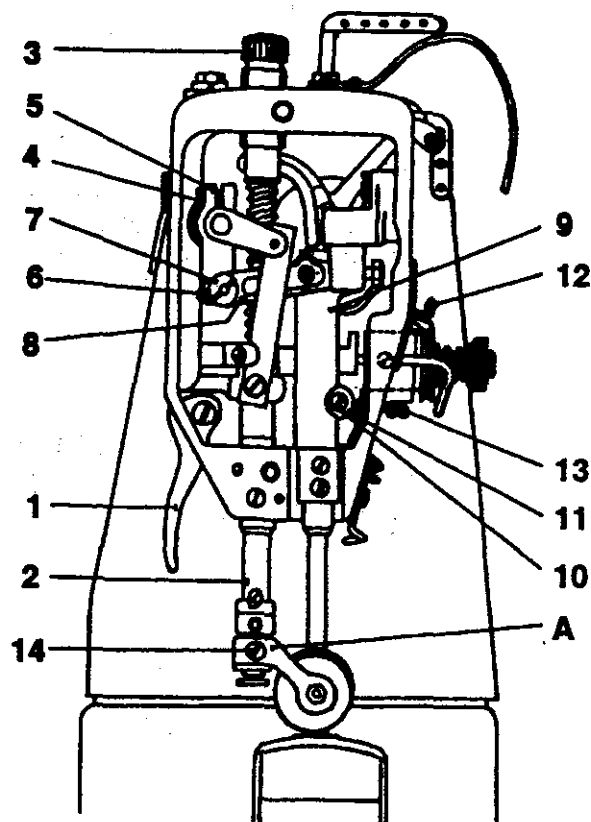

Fig. 10
#### 5. To lift the top roller (Fig. 10)
### 6. To adjust the movement of needle with respect to feed-dog and feeding (Fig. 10, Chart No. 12)
- e) Remove the front post bed cover, loosen the screw (4, Fig. 10) of the lever (5) and adjust the needle onto the feed-dog aperture center. Then retighten the screw.
- g) Adjust maximum stitch length. If the different feeding between needle and feed-dog has been accomplished, carry out the adjustment by revolving of the eccentric (7) which is connecting the lever (5) and the conrod (8) with the needle bar holder (9) after the screw (6, Fig. 10) has been loosened. In the end retighten the screw again.
### 8. To adjust needle bar height (Fig. 10)
12. To adjust function of adjusting spring (Fig. 10)
13. To adjust pressure of presser bar - top roller (Fig. 10)
**17. To exchange top roller (Fig. 10)**